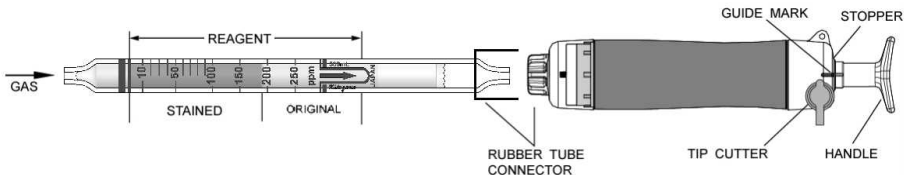

Fig.1
- ② Insert the detector tube into the aspirating pump securely as shown in Fig.1. (Arrow mark shall point to the pump.)
- ③ Align the guide marks on the shaft and stopper of the aspirating pump.
- ④ Pull the pump handle at a full stroke until it locks and wait for 3 minutes or until the completion of sampling is confirmed with the flow indicator of the pump. (See descriptions about the flow indicator in the instruction manual of the pump.)
- ⑤ Turn the pump handle right or left by 1/4 (90°), push it toward the pump without removing the detector tube from the pump, and repeat the step ③~④ twice more.
- ⑥ On completion of sampling, read the scale at the maximum point of the stained layer.
- ① Temperature; Correct the tube reading by following temperature correction table.